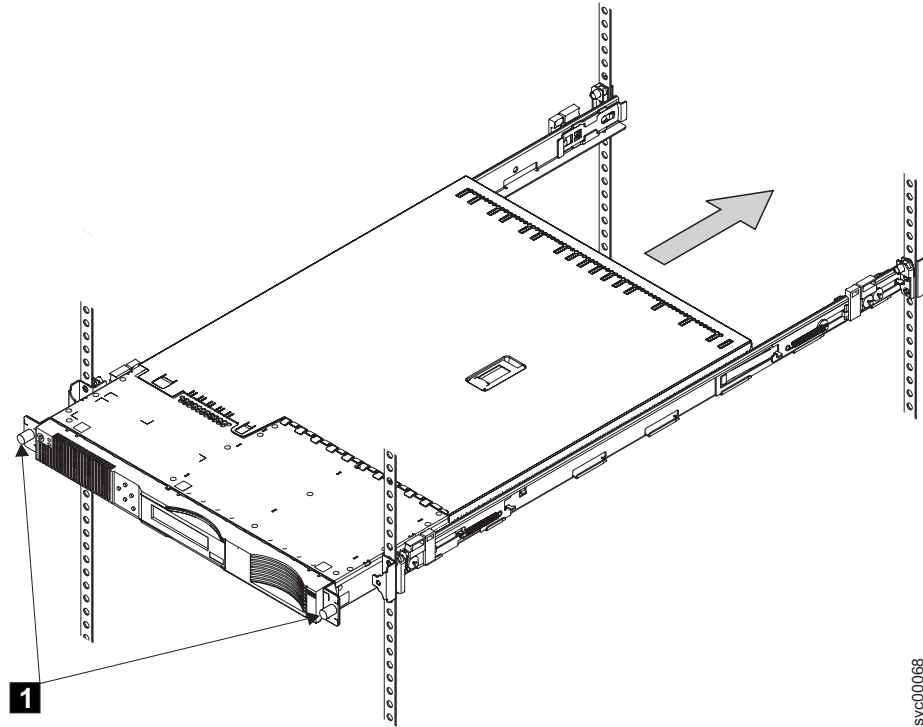

Figure 72. Attaching the SAN Volume Controller 2145-4F2 with the front screws
2. Screw in the two front screws (**1** in Figure 72 on page 351).
Note: The front of the rail assembly looks different from the front, as you can see in Figure 72 on page 351.